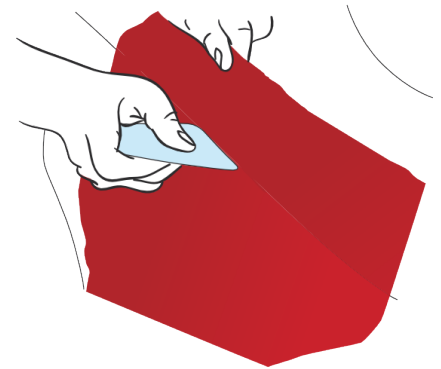

Figure 33
- ▶ Trace the contours of the area with your finger. Lift the vinyl of the adjacent part and drag it into the hollow using a squeegee so as to mark the seal edge. (FIG. 33)